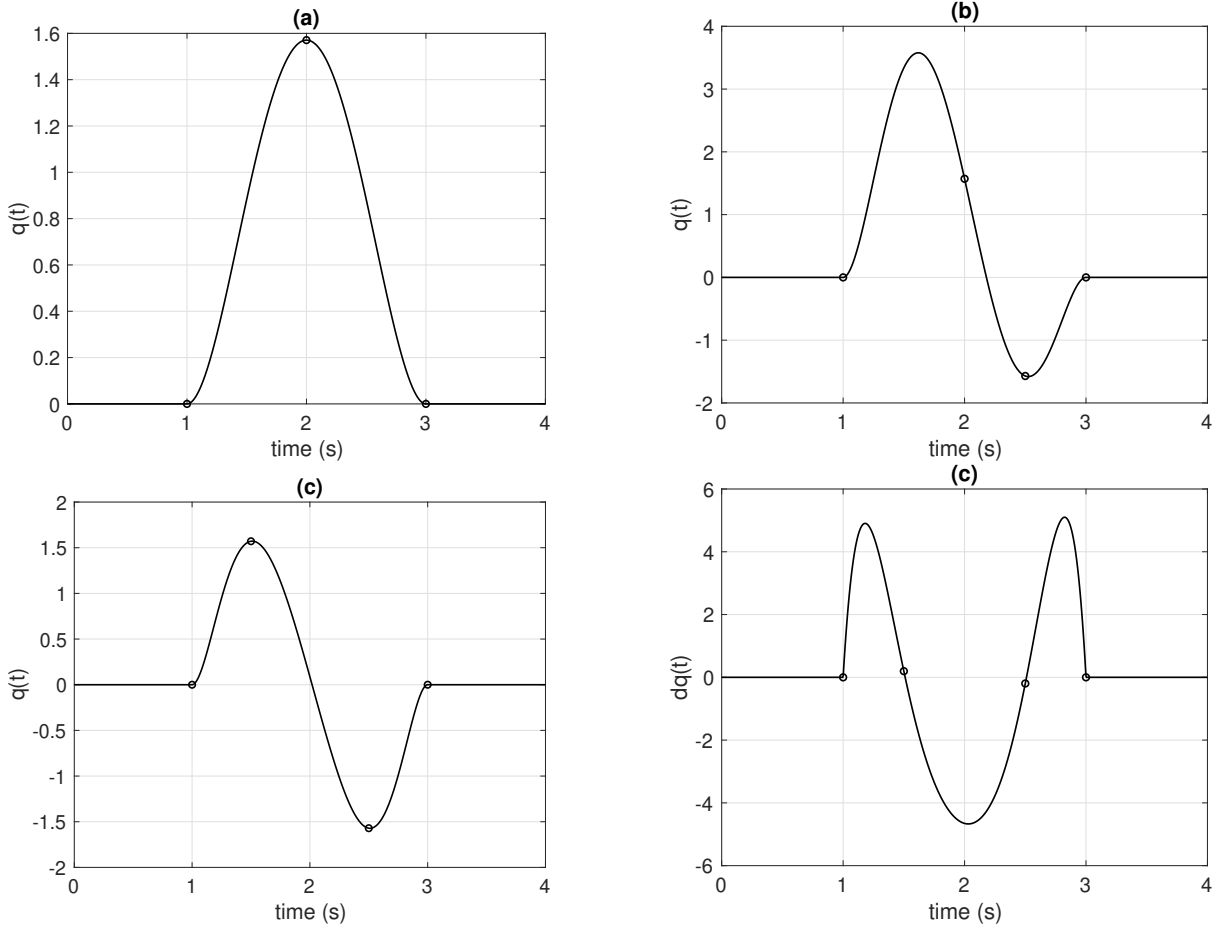

Figure 2: Solution plots for Problem 5
1. The forward kinematics for the articulate robot shown in Fig. 2 can be described from the following individual transformation matrices: